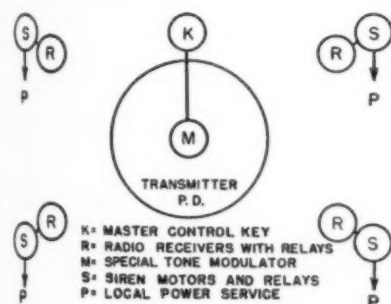

Fig. 3.
Fig. 3 shows a remote controlled warning system using a central radio transmitter and local radio operated relays to close siren motor circuits. Master control key (K) operates audio modulator (M) to send special control tone of desired duration. Receivers (R) translate tone into current which operates sensitive relay, which closes circuit to power relay, which turns on sirens. Relays open when tone ceases.